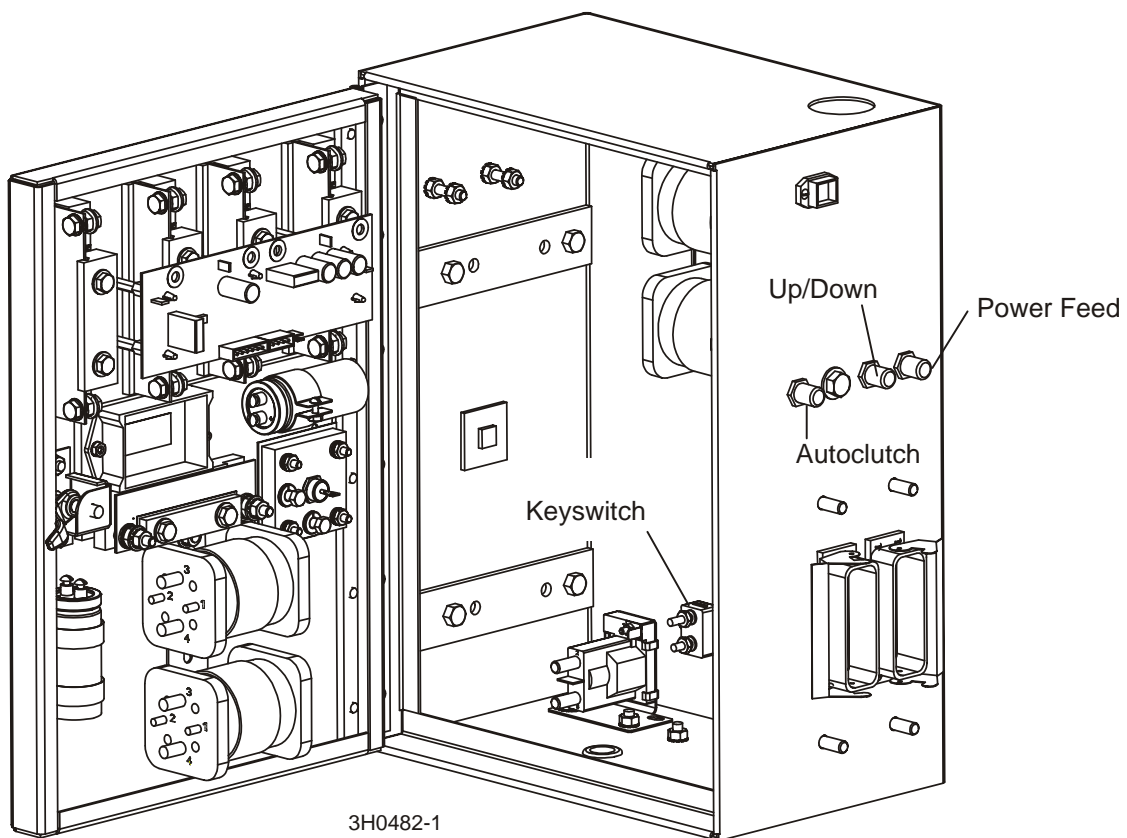

FIG. 6-4
**See Figure 6-4. DC Models Only:** The power feed, up/down, and autoclutch breakers are externally mounted at the side of the remote junction box. A keyswitch breaker is located inside the remote junction box.